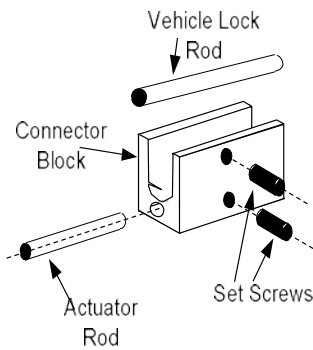
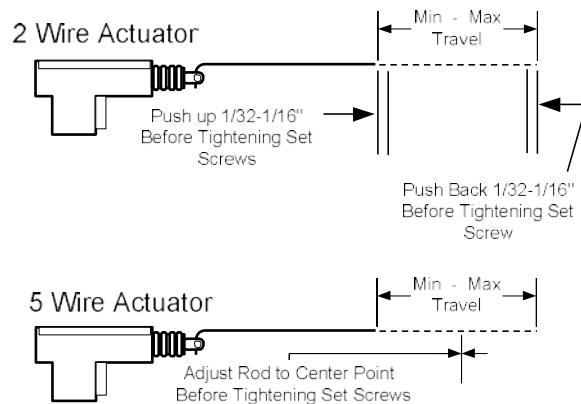

Fig 3. Rod and Connector Block Assembly
Fig 4 STROKE ADJUSTMENT
- Insert the vehicle lock rod and actuator rod into the supplied connector block as shown in Figure 3 & Figure 4. After ensuring there is adequate allowance for the movement of the connector block assembly, tighten the set screws.
6. For each front door (5-wire) actuator, make sure you have adjusted the stroke of the actuator and vehicle lock rod to the middle point of its full stroke before tightening the set screws in the connecting block which connects the steel rod and vehicle's lock rod. (See Fig 4. in Step 4.)
7. For the rear (2-wire) door actuators, make sure you have adjusted the stroke of each actuator to max. or min. stroke position, and push it in or pull it out respectively about 1/16" before tightening the set screws in the connecting block as shown in Fig 4 (in step 4 above.) Then push and pull the door lock lever/knob to assure that the mechanism is working well. If not then readjust.